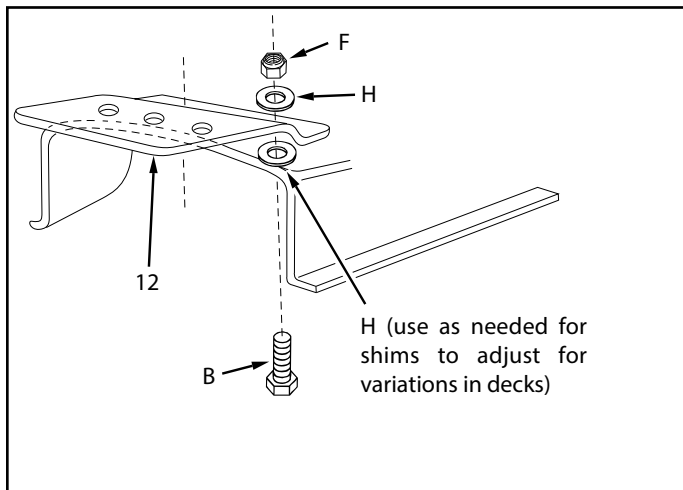

FIGURE 18
- Assemble the adapter bracket to the deck using two 5/16" x 1-1/4" hex bolts (B), 5/16" flat washers (H) and 5/16" nylock nuts (F). See figure 18.
NOTE: It may be necessary to use extra 5/16" flat washers to shim under the bracket next to the deck surface. Ten extra washers have been furnished as shims. See figure 18.